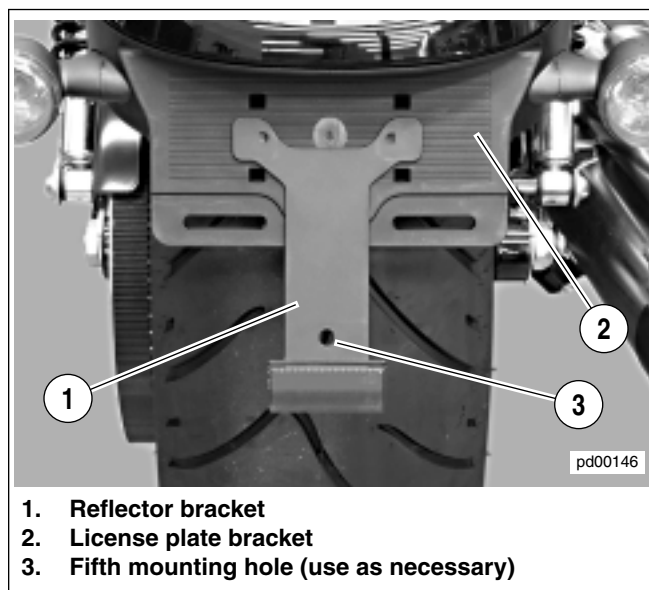

Figure 2. License Plate Reflector Bracket:
2. See Figure 2. Position reflector bracket (1) over license plate bracket as shown and snap into place.
1. See Figure 2. Attach the license plate to the license plate bracket (2) with four fasteners, drilling holes as required.
2. If the license plate being installed is tall enough that the bottom of it reaches the hole (3) in the reflector bracket (1), use a fifth fastener to secure the bottom of the license plate to the reflector bracket at that point, drilling a hole as required. Insert the screw with the screw head on the tire side of the bracket and the threaded part of the screw extending through the license plate.